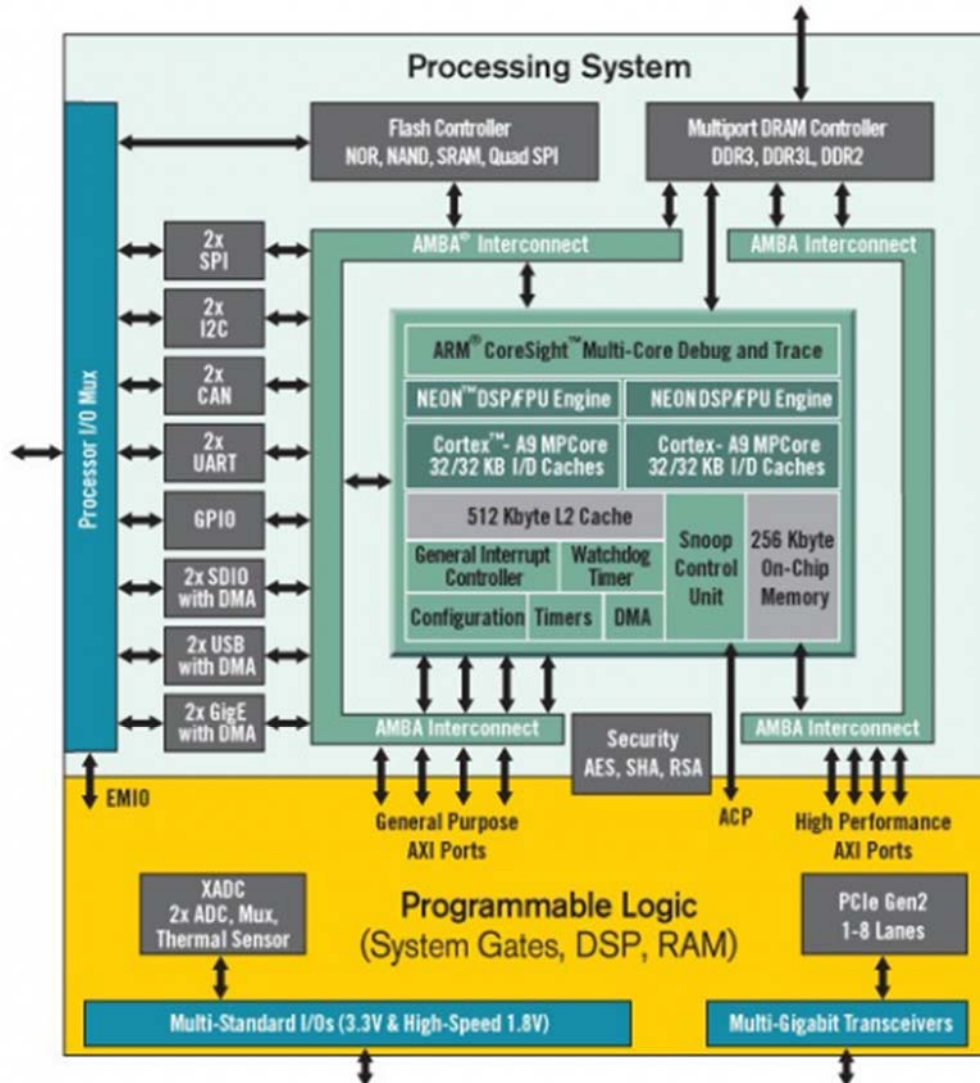

Figure 2.1 Zynq APSoC architecture
The Zynq APSoC is divided into two distinct subsystems: The Processing System (PS) and the Programmable Logic (PL). Figure 2.1 shows an overview of the Zynq APSoC architecture, with the PS colored light green and the PL in yellow. Note that the PCIe Gen2 controller and Multi-gigabit transceivers are not available on the Zynq-7010 or Zynq-7007S devices.
The PS consists of many components, including the Application Processing Unit (APU), Advanced Microcontroller Bus Architecture (AMBA) Interconnect, DDR3 Memory controller, and various peripheral controllers with their inputs and outputs multiplexed to 54 dedicated pins (called Multiplexed I/O, or MIO pins). The Zynq-7010 APU contains two Cortex-A9 processors, while the Zynq-7007S APU only contains one. Peripheral controllers that do not have their inputs and outputs connected to MIO pins can instead route their I/O through the PL, via the Extended-MIO (EMIO) interface. The peripheral controllers are connected to the processors as slaves via the AMBA interconnect, and contain readable/writable control registers that are addressable in the processors' memory space. The programmable logic is also connected to the interconnect as a slave, and designs can implement multiple cores in the FPGA fabric that each also contain addressable control registers. Furthermore, cores implemented in the PL can trigger interrupts to the processors (connections not shown in Figure 2.1) and perform Direct Memory Access (DMA) transfers to and from DDR3 memory.